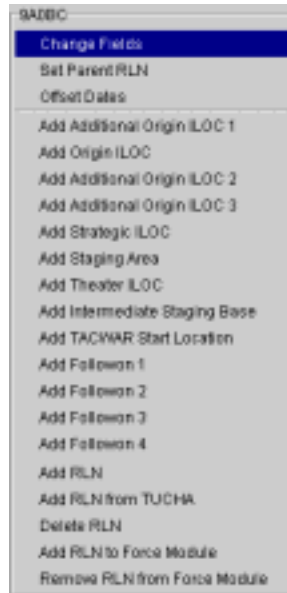

Figure 5.65 RLN Commands
4. Right-click the name of an RLN (e.g., 9A0BC). A menu of RLN commands opens (Figure 5.65), and the Change Fields command is highlighted.